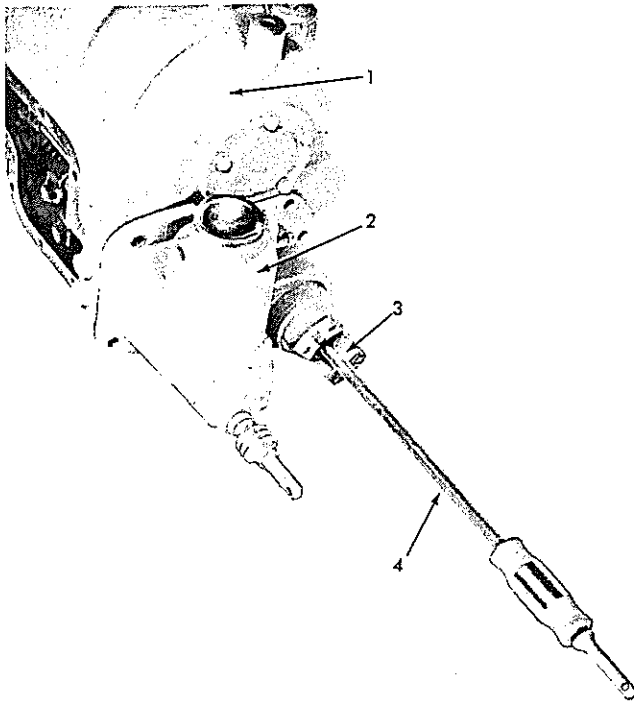

Fig. 9 Removing Shift Lever Housing (T-18043)
5. Remove capscrews attaching shift lever housing to transmission case. Use a slide hammer puller, Fig. 9; pull shift lever housing (with input shaft)